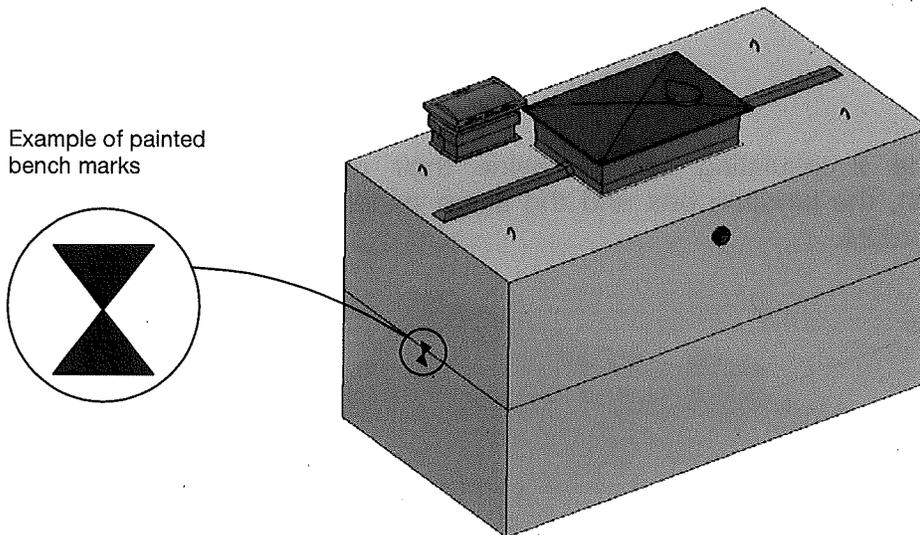

Figure 26
2.12 Add bench marks to correctly position the top tile on the concrete tank so the secondary access is on top of the access funnel (see figure 26). The kind of bench marks used is up to the precaster.